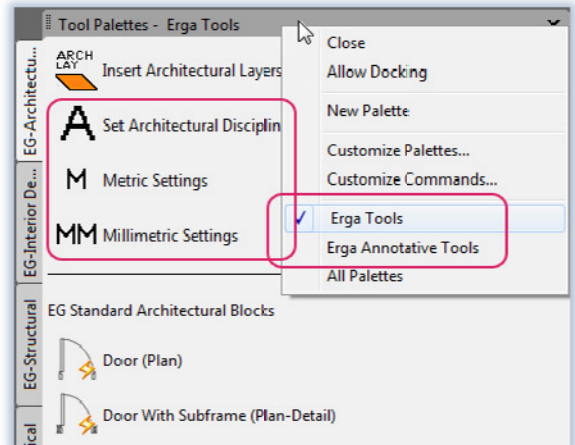

Figure 2
- From the Tool Palettes set the **Drawing Units** and the **Discipline** (Figure2).